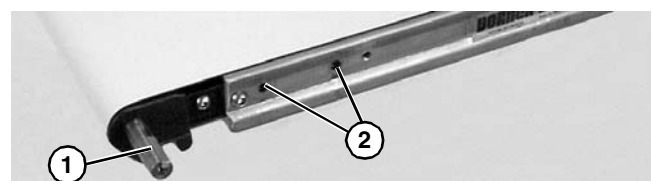

Figure 4
2. Locate drive output shaft (Figure 4, item 1) and remove two screws (Figure 4, item 2).